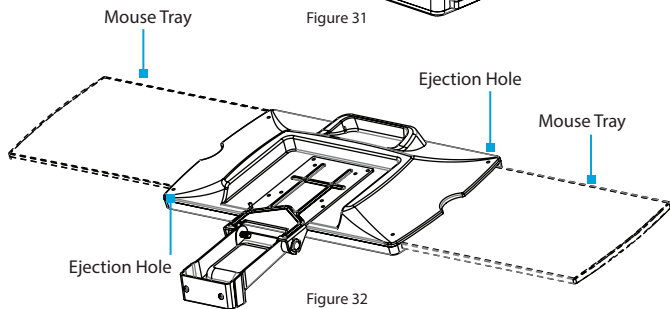

Figure 32
3. Insert a **Pin** or other fine object into one of the two **Ejection Holes**, located on the underside of the **Keyboard Tray**, to depress a plastic clip and pull the **Mouse Tray**. (Figure 32)